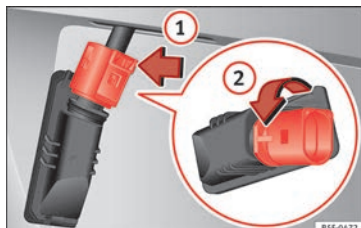

Fig. 119 Number plate light: Remove the bulb holder.
3. Turn the connector lock »» Fig. 119 in the direction of arrow ① and pull on the connector.
4. Rotate the bulb holder in the direction of arrow ② and extract it with the bulb.
6. Insert the bulb holder in the number plate light and turn in the opposite direction of arrow ② until it stops.